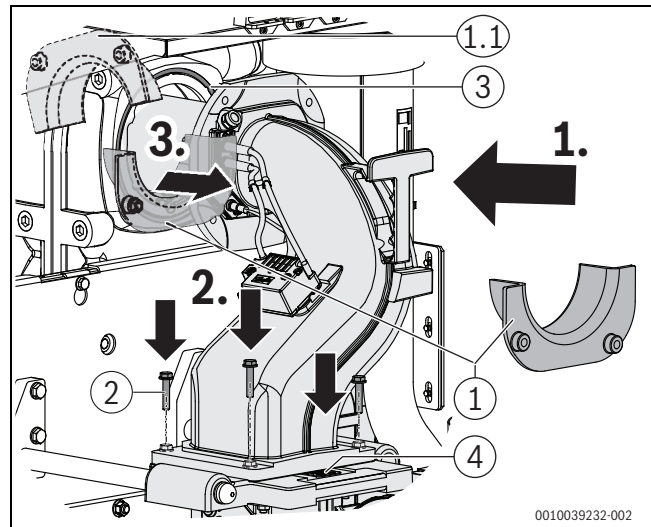

Fig. 75 Install the mixture manifold with burner rod using the installation aid
There is an indicator window on the top of the flange which allows a check to be carried out from the outside to determine whether the gasket is inserted (→ Fig. 75).
- Install the ignition transformer connecting cable as shown in Fig. 75.